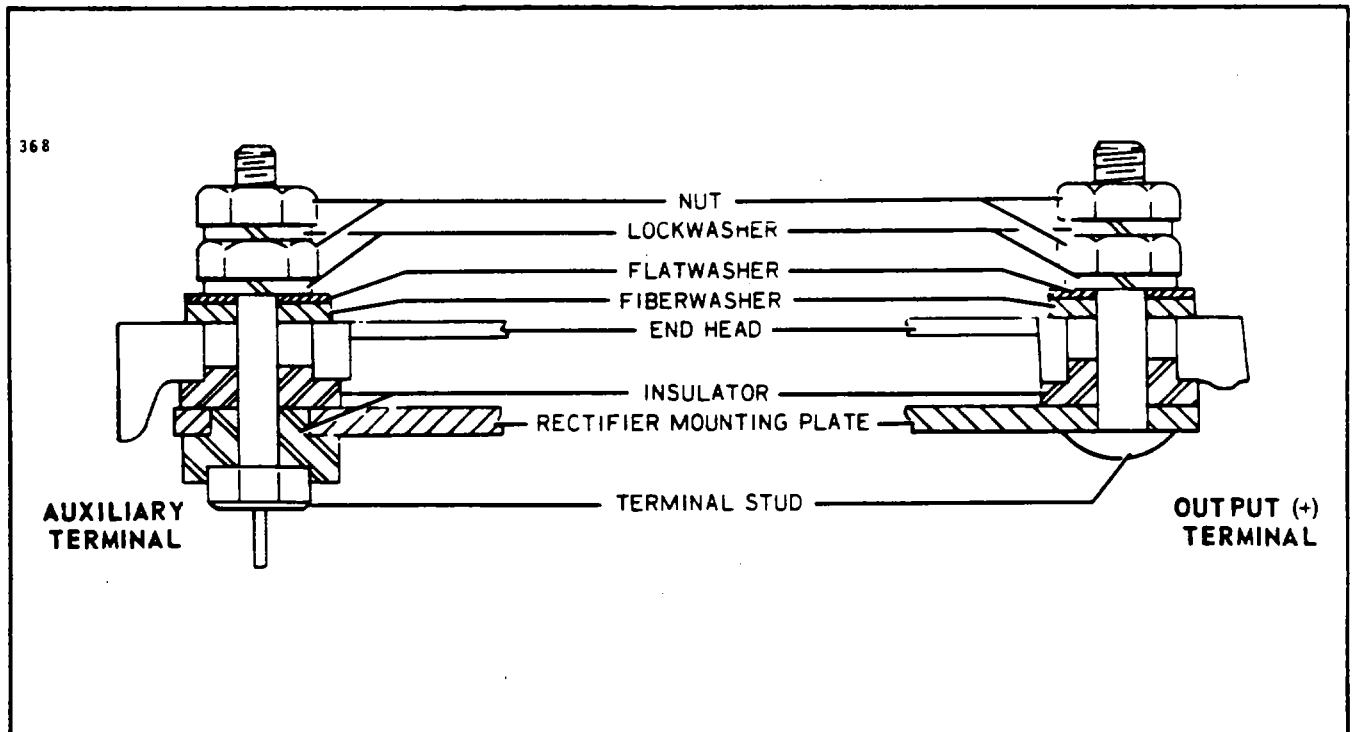

Figure 24-11. Terminal Assembly
3. Reassemble the rectifier mounting plate studs and insulators, making sure they are in the correct order. (Refer to Figure 24-11.)